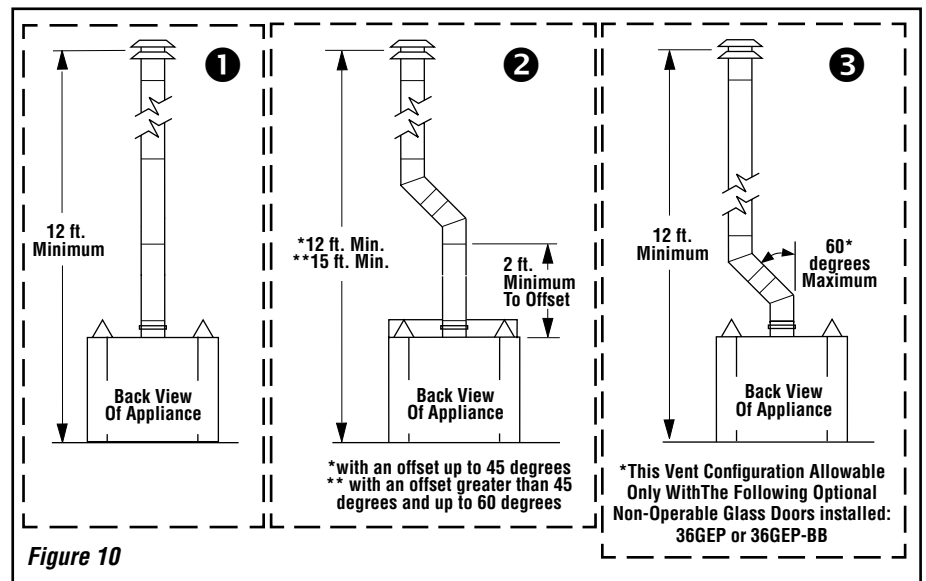

Figure 10
- B. The following venting configurations may be installed (**see Figure 10**):